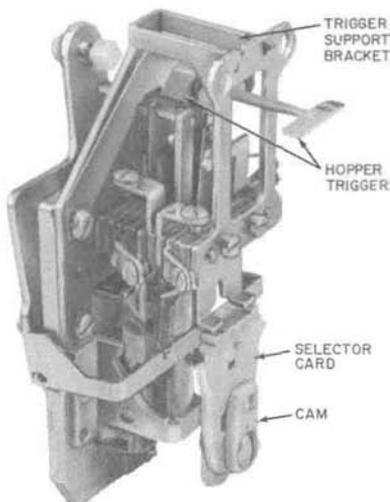

Fig. 24—Coin Relay
- Check that hopper trigger (Fig. 24) is in horizontal (up) position and pull off coin relay. **Do not damage hopper trigger.**
Note: Do not attempt to install relay if trigger support bracket (Fig. 24) is so distorted that mounting holes do not engage hopper bosses.